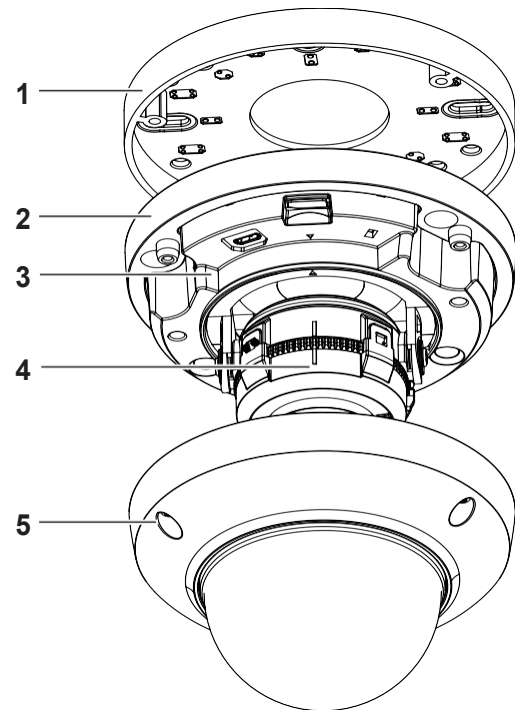

Figure 1
Camera Parts: Figure 1
4. Unscrew the three screws on the camera dome (5) (Figure 1) to remove the dome cover from the camera base.
- a. through the cable side entry slot on the camera base (2) (Figure 1).
- b. through the cable hole on the mounting plate (1) (Figure 1).
6. Place the camera base (2) (Figure 1) on to the camera mounting plate (1) (Figure 1) and ensure that the three holes on the camera base align with the three holes on the mounting plate.
9. Cover the camera body with the dome cover (5) (Figure 1) and securely attach the dome to the camera with the three screws.